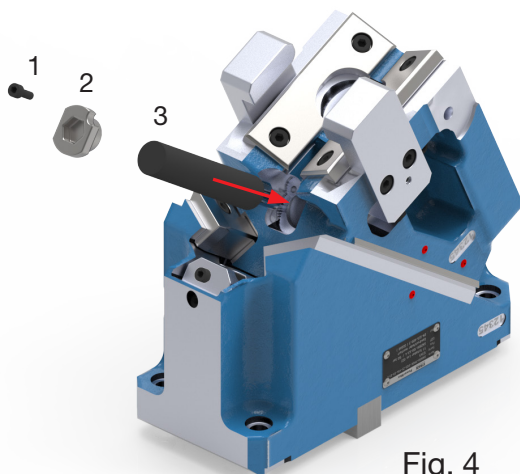

Fig. 4
Insert the gas spring (3) in the hole provided (fig. 4). Insert the bayonet lock (2) in the provided hole and turn it by 90°.